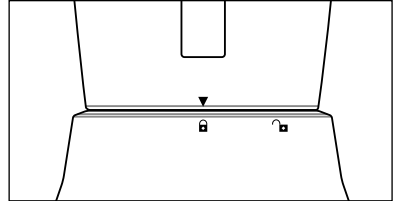

Fig. 3
- 7) Place the filled and closed blender **3** on the motor unit **6**. To do this, use the recesses on the motor block **6** and make sure that the handle of the blender **3** is pointing to the  symbol (see Fig. 3). Turn the blender **3** clockwise to towards the position  until it audibly engages. The motor cannot start until the blender **3** is fitted flush to the motor block.